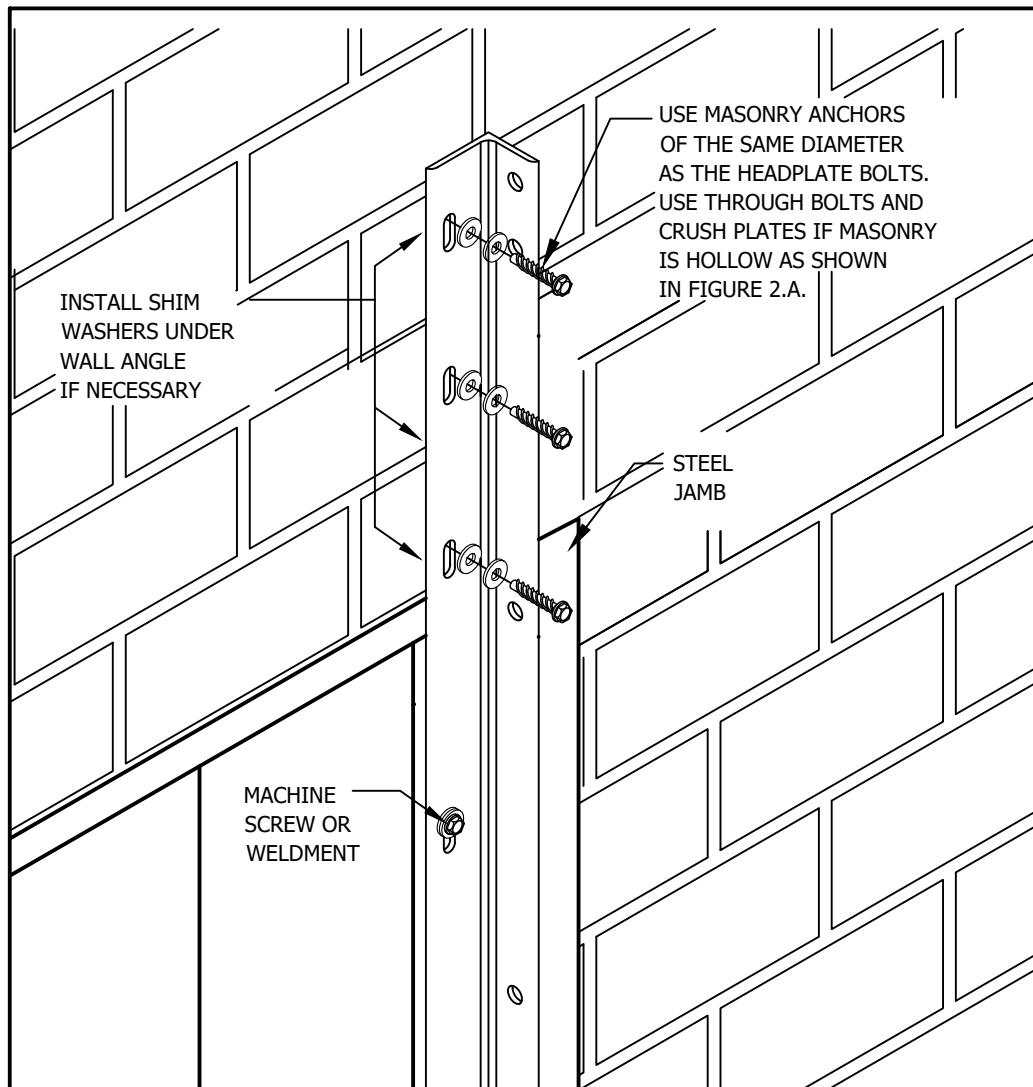

FIGURE 7
Reference Figure 3 to determine correct jamb fastener type for your application, and for drill bit size, etc. Locate the masonry anchors or machine screws in the TOP of each slot of the wall angle as shown in Figure 7.
NOTE: Wall angles may extend above steel jambs onto masonry. In this case, attach with masonry anchors of size and type recommended by manufacturer. Mount in the TOP of each slot as shown in Figure 7. Shim with washers as required to maintain a flush mounting surface for the wall angle. Use anchors that match the diameter of headplate bolts.
- ✓ Two hot dipped galvanized washers must be installed under the head of each jamb fastener as shown in Figure 7.